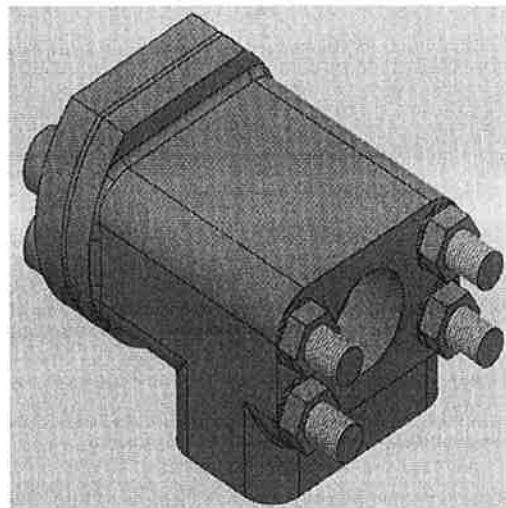

Figure 16–29
- Add a thread to the Bolt component, as shown in Figure 16–29.